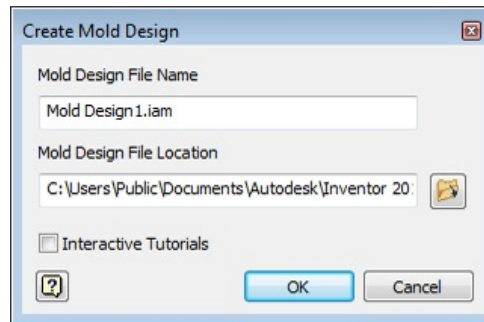

Figure 19-62 The *Create Mold Design* dialog box
2. Double-click on the **Mold Design (mm).iam** option; the **Create Mold Design** dialog box will be displayed, as shown in Figure 19-62.